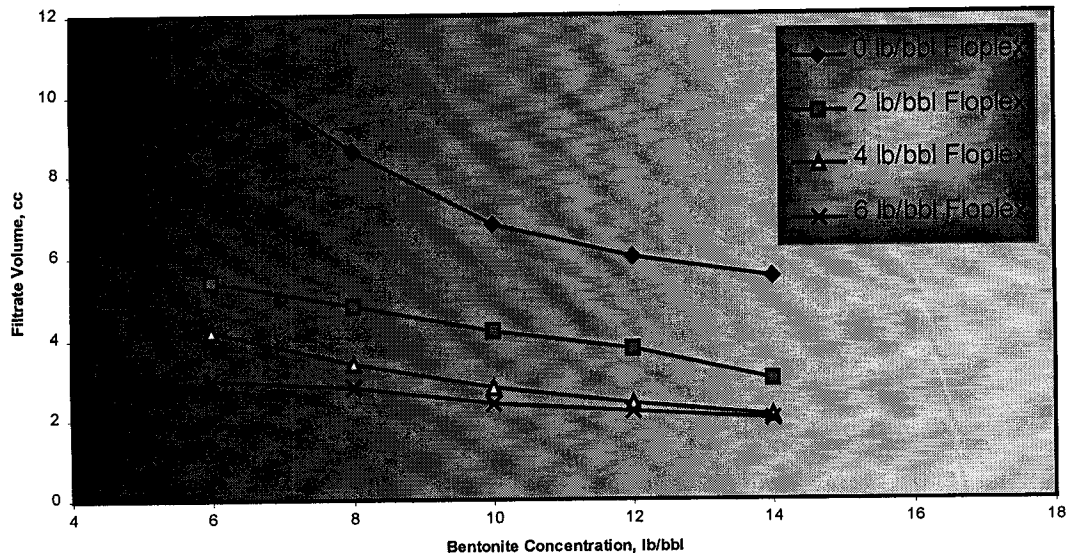

Figure 3. Bentonite Concentration Vs. Filtrate Volume 7.5' for Visplex 1 ppb
Those data constitutes of density ( $\rho$ ), plastic viscosity(PV), apparent viscosity (AV), yield point (YP), gel strength 10',  $\theta_6$ ,  $\theta_3$ , 7.5' and 30' filtrate volume versus bentonite concentration on each visplex and floplex concentration being adopted, as it is viewed consecutively in table 2, table 3 and figure 3. Eventually, those parameters will be compared with the values obtained from the IDF Spec. to achieve a good rheology quality. The ratio of Indoben bentonite, visplex and floplex which produces the best rheology/approaching the IDF Spec. whose ratio is 10 : 1 : 2 lb/bbl with parameters as it is shown on Table 3.